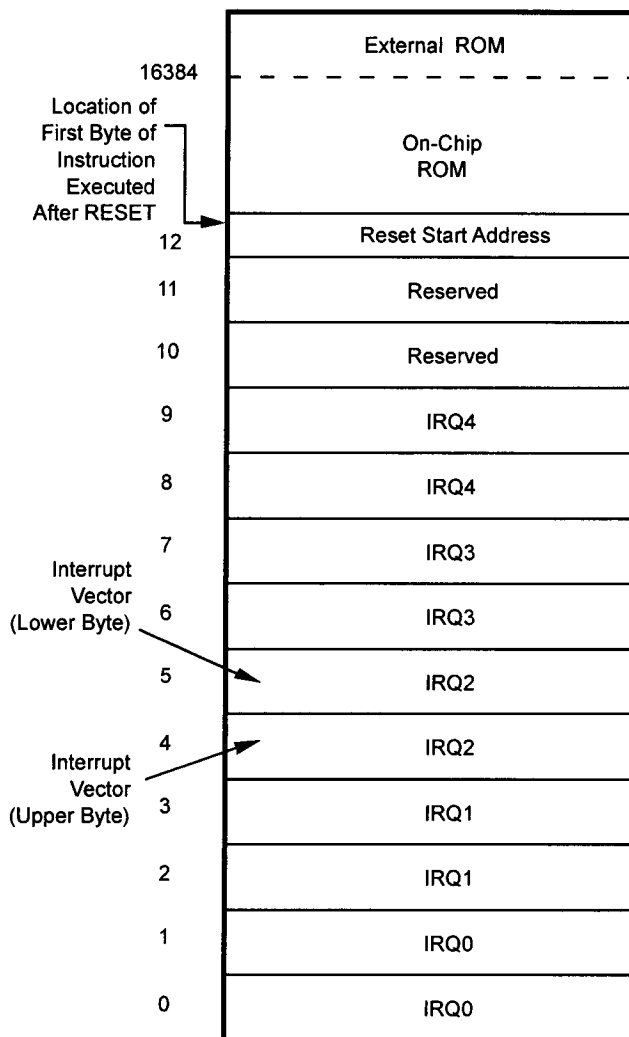

Figure 15. Program Memory Map
**Program Memory.** The Z8 addresses up to 16K of Internal Program Memory, with the remainder residing in external memory (Figure 15). The first 12 bytes of program memory are reserved for the interrupt vectors. These locations contain five 16-bit vectors that correspond to the five available interrupts. At addresses 16K and greater, the Z8 executes external program memory fetches (refer to external memory timing specifications in Table 2). Port 0 and Port 1 must be configured for external memory access.